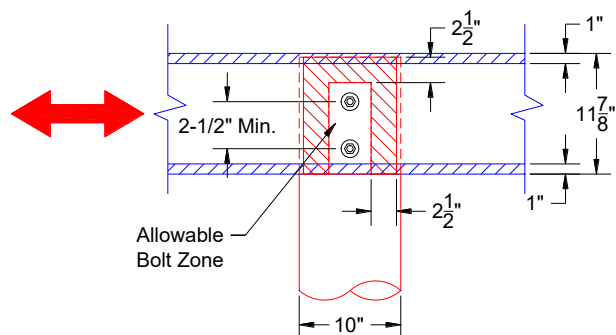

Figure 6: Lateral Design (Continuous Beam).
- Required end and edge distances shown in Figures 6 and 7.